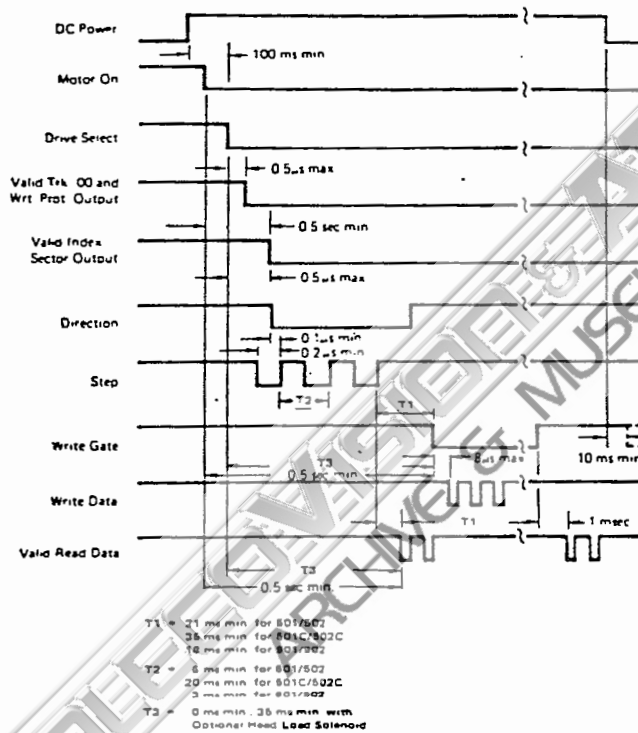

Figure 3-10: General Control Timing
- B. Head/media must be stabilized subsequent to the HEAD LOAD command. This requires 35 ms in drives equipped with a head load solenoid (see figure 3-10).